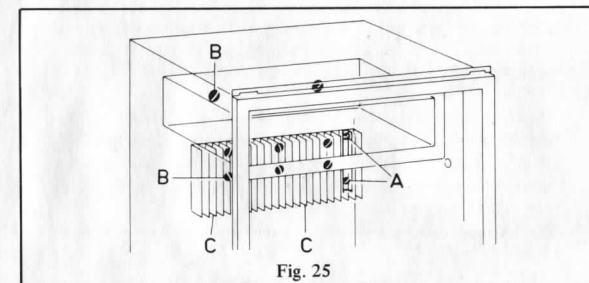

Fig. 25
2. Remove both thermostat capillary tubes by loosening the two screws (A) on the evaporator flange (Fig. 25).